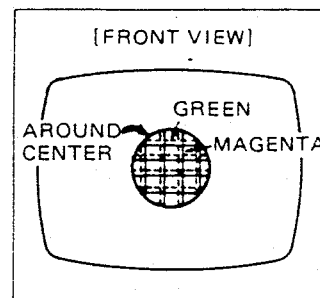

Fig. 8
4. Rotate the rear pair of tabs as a unit to minimize the separation of the magenta (R/B) and green lines. (Fig. 8)